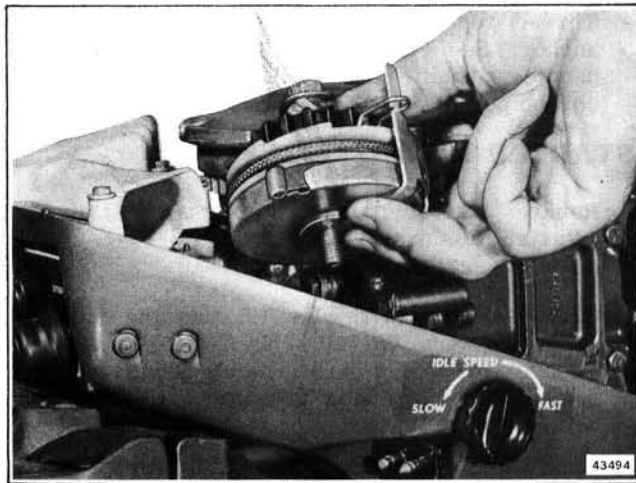

Figure 8-4. Removing Starter
3. Loosen starter mounting screw, and back it out of manifold while holding pulley and cup together to retain rewind spring in cup. See Figure 8-4.
11. Wind rope on pulley in a counterclockwise direction. See Figure 8-4.